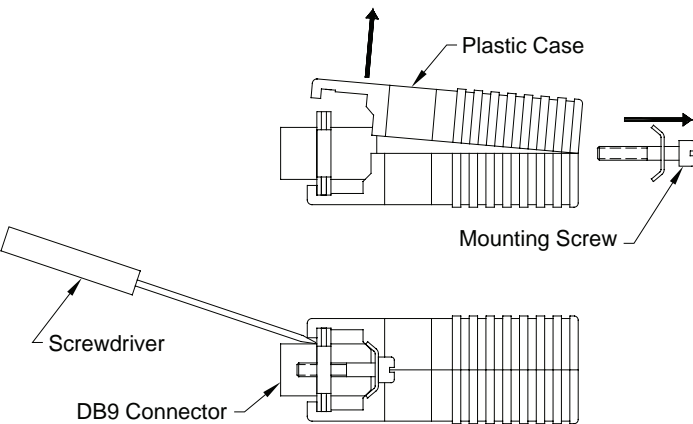

Figure 10: Opening the converter case
- 5. Use a small screwdriver to pry open the *plastic case* of the serial interface converter, as shown in figure 10.